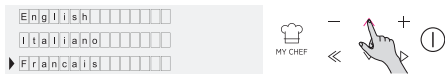

Figure 2
• Please enter in the settings section and select the language from the drop down menu (Figure 2).